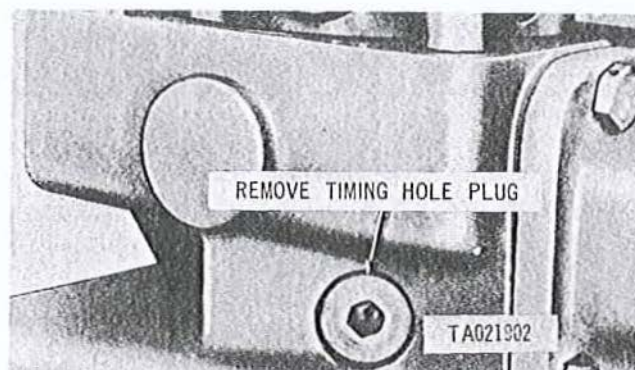
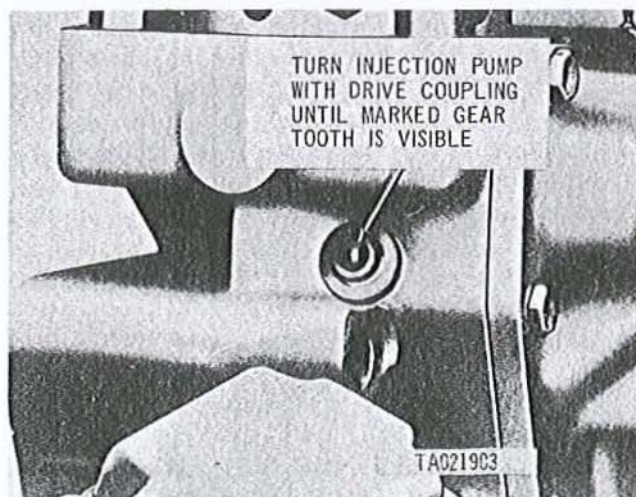

Figure 2-47. Removing or installing fuel injection pump timing hole plug.
Figure 2-48. Fuel injection pump timing hole showing marked gear tooth.
(2) Remove timing hole plug (fig. 2-47). Turn injection pump shaft with drive coupling until marked gear tooth is visible (fig. 2-48).
It is possible to have the timing mark on the coupling aligned with mark on the injection pump bearing retaining plate (fig. 2-49) and not have the marked gear tooth visible in timing hole. Make sure marked tooth (fig. 2-48) is visible when timing marks are aligned. If the marked tooth is not visible, rotate the pump shaft 360° in either direction. Aline the coupling timing marks and the marked tooth will be visible in the timing hole. Install timing hole plug.